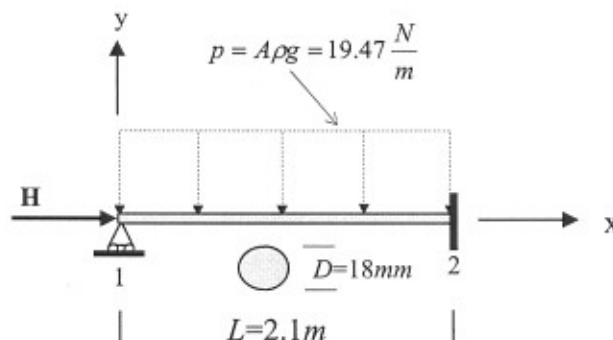

Figure 1
- Q1.** Apply *one* element of length L to evaluate the deformations, stresses, vibrations and stability of the beam shown in Figure 1.